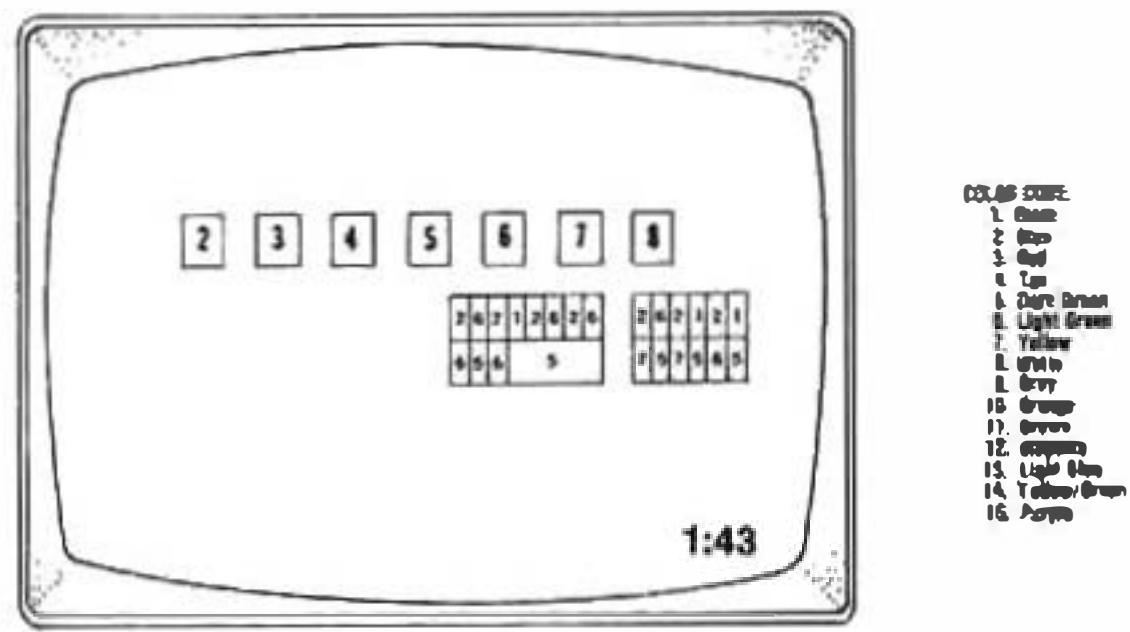

Figure 2-3
(4) The next portion of the test sequence is a pattern of colored blocks with the two larger blocks alternating with the words MODE TWO on a red background, as illustrated in Figure 2-3. Check colors in test pattern against Figure 2-3 for similarity and definition. If test pattern accuracy is satisfactory, press the CLEAR key. If it is unsatisfactory, press the ENTER key.